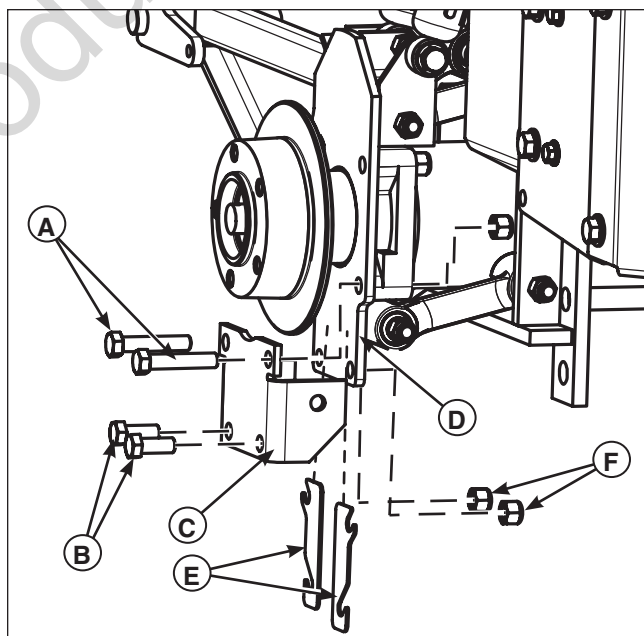

Figure 37. Installing the Rear Tire Camber
3. Loosen but do not remove the two (2) 1/2-20 X 3" (A, Figure 37) bolts and the (2) 1/2-20 X 1-3/4" bolts (B.)
4. Install the new camber shims (E) between the adjustable A-arm mount (C) and the rigid A-arm mount (D.) The bottom of the slots on the camber shim should rest snugly against the shaft of the 1/2-20 X 3" bolts and the 1/2-20 X 1-3/4" bolts.
5. Retighten the two (2) 1/2-20 X 3" bolts and the (2) 1/2-20 X 1-3/4" bolts.